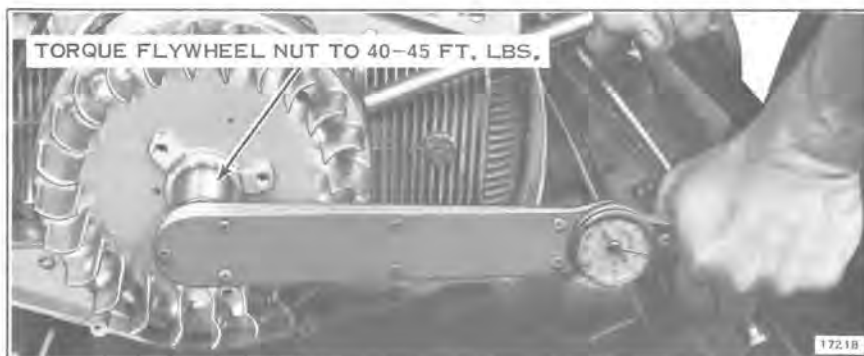

Figure 7-17
- Place washer and flywheel nut in position. Torque flywheel nut to 40 - 45 foot pounds. See Figure 7-17.